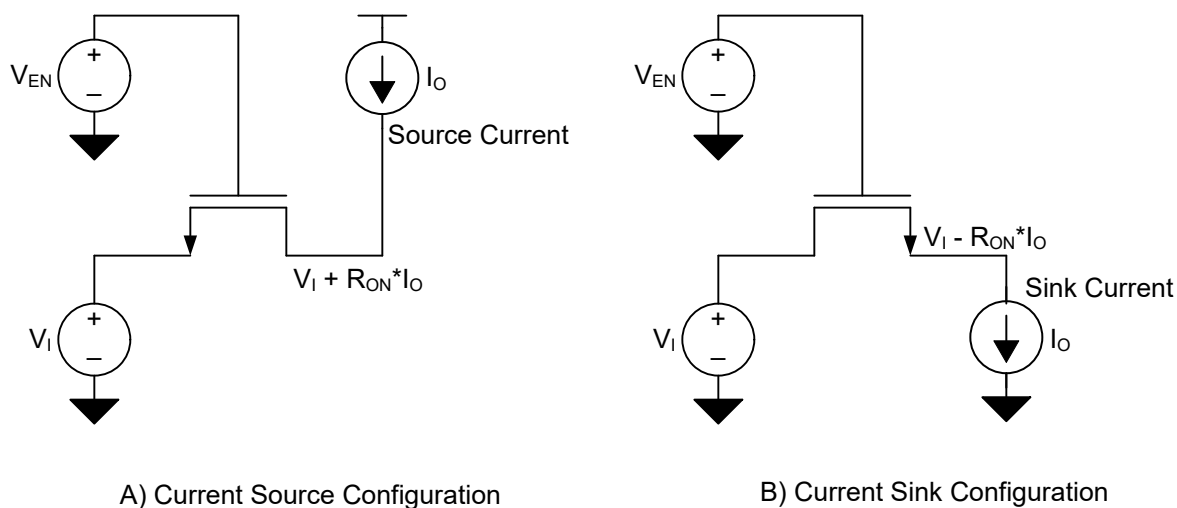

Figure 6-1. Current Source and Current Sink Configurations for Direct R_{ON} Measurements
(1) All typical values are at T_A = 25°C.
(2) Measured by the voltage drop between the SCL1 and SCL2, or SDA1 and SDA2 terminals, at the indicated current through the switch. Minimum ON-state resistance is determined by the lowest voltage of the two terminals.
(3) Measured in current source configuration only. See Figure 6-1
(4) Measured in current sink configuration only. See Figure 6-1